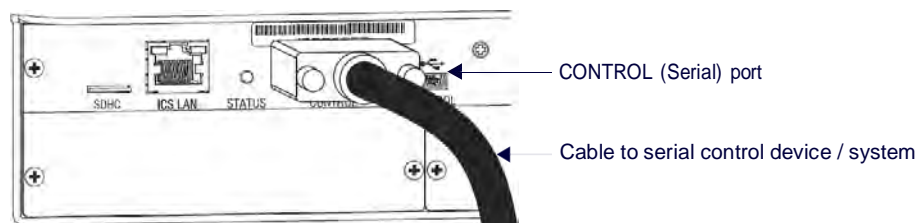

FIG. 193 RS-232 null modem cable pin diagram, no hardware flow control
1. Plug one end of the null modem serial cable into the Control port on the enclosure (FIG. 193):